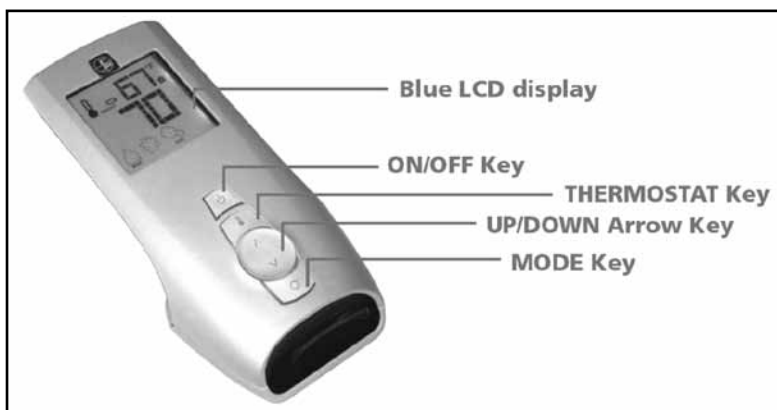
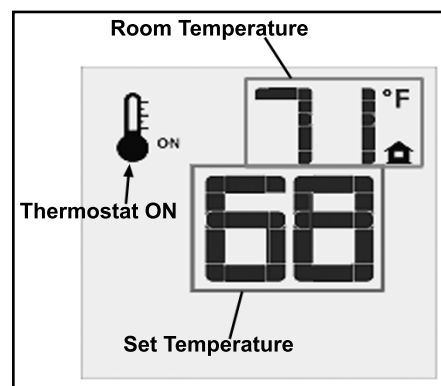

Figure 5: Proflame Transmitter.
Figure 11: Remote Control Displays Set Temperature.
The Proflame Transmitter uses a streamline design with a simple button layout and informative LCD display (Figure 5). The Transmitter is powered by three (3) AAA type batteries. A Mode Key is provided to Index between the features and a Thermostat Key is used to turn on/off or index through Thermostat functions (Figure 5 & 6).
Press the ON/OFF Key on the Transmitter. The Transmitter LCD display will only show the room temperature and Icon (see Figure 11). A single “beep” from the Receiver confirms reception of the command and both the pilot light (if the unit is not set to continuous pilot) and main burner will turn off.
The Remote Control can operate as a room thermostat. The thermostat can be set to a desired temperature to control the comfort level in a room. To activate this function, press the Thermostat Key (see Figure 5). The LCD display on the Transmitter will change to show that the room thermostat is “ON” and the set temperature is now displayed (see Figure 11). To adjust the set temperature, press the Up or Down Arrow Keys until the desired set temperature is displayed on the LCD screen of the Transmitter.